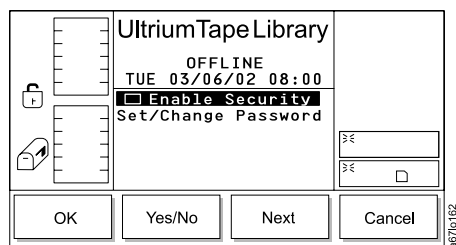

Figure 253. Secure Dialog
10. Press the button below the **OK** softkey to redisplay the Secure Dialog and view the new setting (see Figure 253).